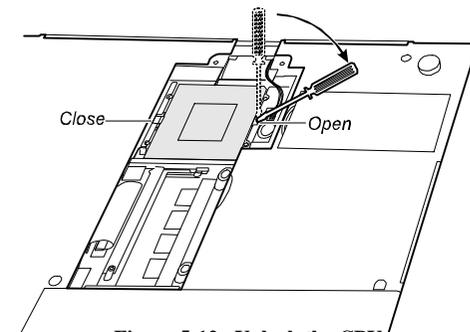

Figure 5-12. Unlock the CPU
5. Insert a minus screwdriver 101 (JIS standard) to the OPEN side of the socket and gently push the screwdriver to pry the CPU out of the socket. (Refer to Figure 5-12)